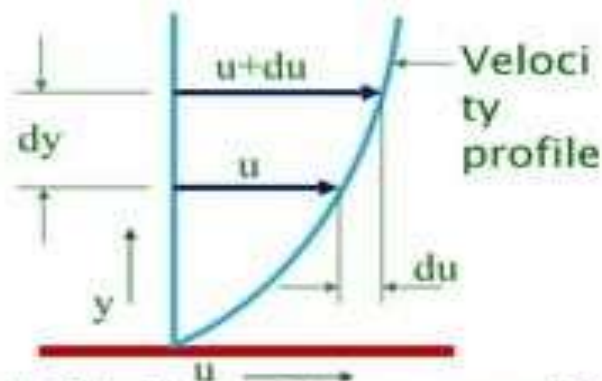

Fig.1: Velocity variation near a solid boundary
- Consider two layer of a fluid , a distance ' dy ' apart, move one over the another at a different velocity, say ' u ' and ' $u+du$ ' as show in fig.1 :